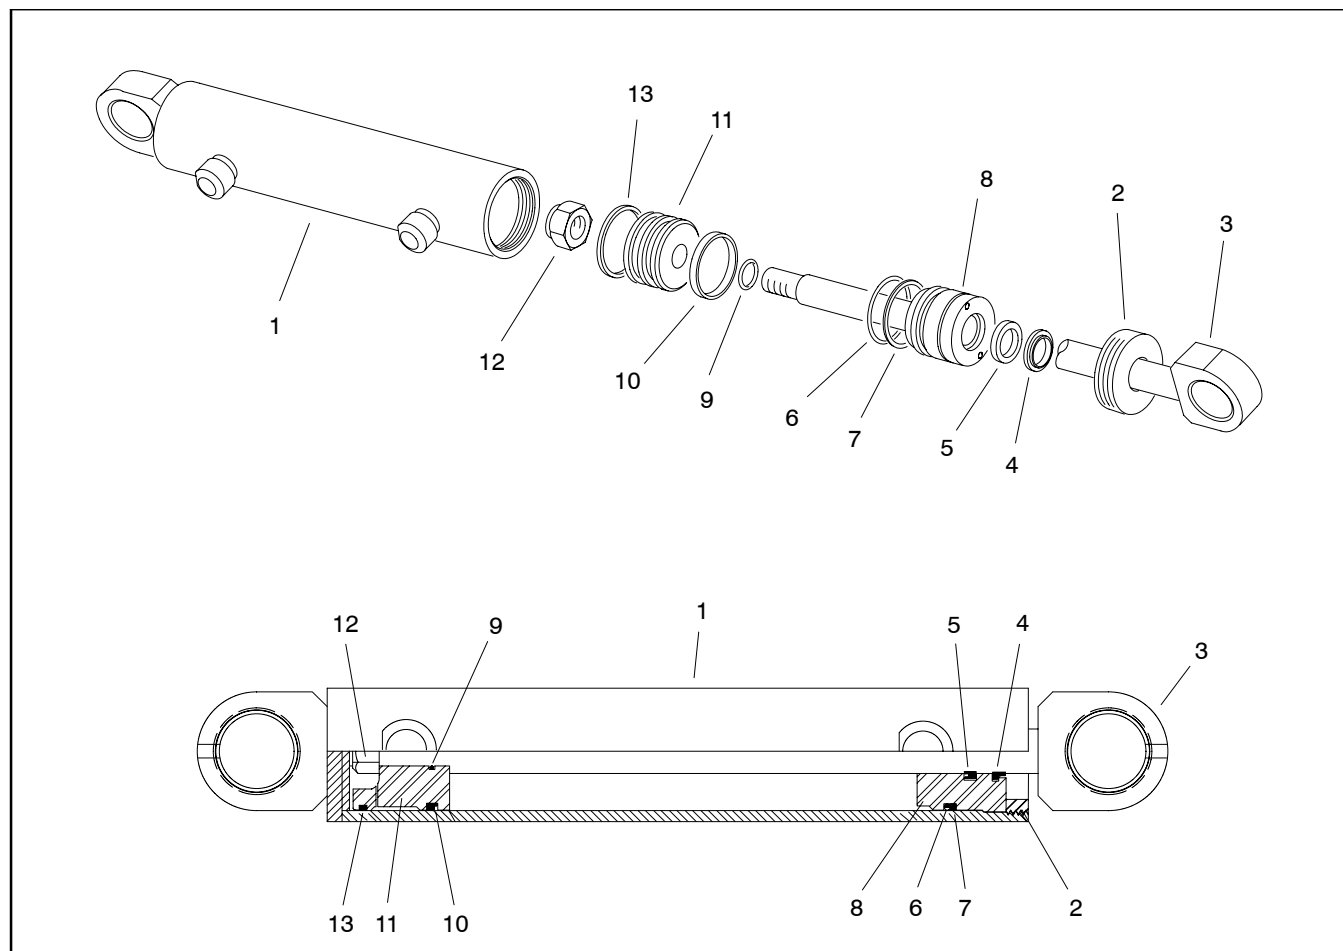

Figure 81
**Disassembly (Fig. 81)**
A. On cylinders with a collar in the barrel (Fig. 81), use a spanner wrench to loosen and remove collar from barrel.
**Assembly (Fig. 81)**
A. On cylinders with a collar in the barrel (Fig. 81), use a spanner wrench to tighten collar into barrel.